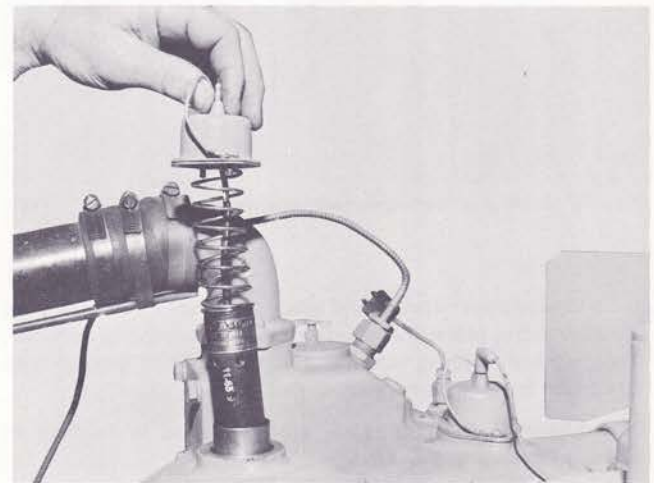

Fig. 4-1. Removing transformer assembly
2. Remove screws securing transformer cover, retainer, spring and transformer ground wire to rocker cover; lift off cover. Fig. 4-1.